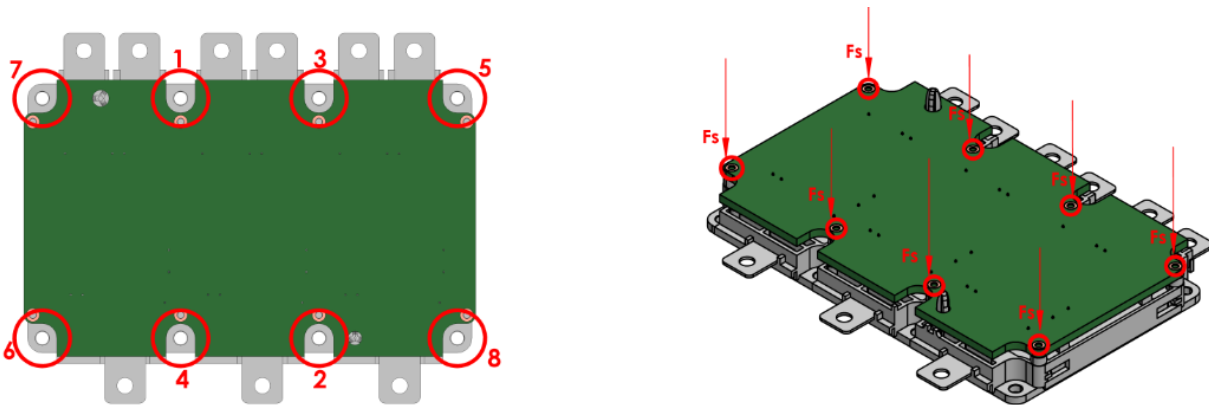

Figure 20. Screw Order and Sequence to Assemble the Power Module to the Cooler
When assembling the power module to the baseplate, it is important to follow the sequence as shown in Figure 20. This is the only recommended sequence to affix the screws.
2. Module Clamping Method: This method is better suited for higher volume production process. After the module with the PCB assembly is placed in the cooler the module can be clamped with a total force $F_S = 2 \text{ kN}$ during the screw-in process. The clamping force can be applied in the area where the PCB mounting screw holes are located as shown in Figure 20.